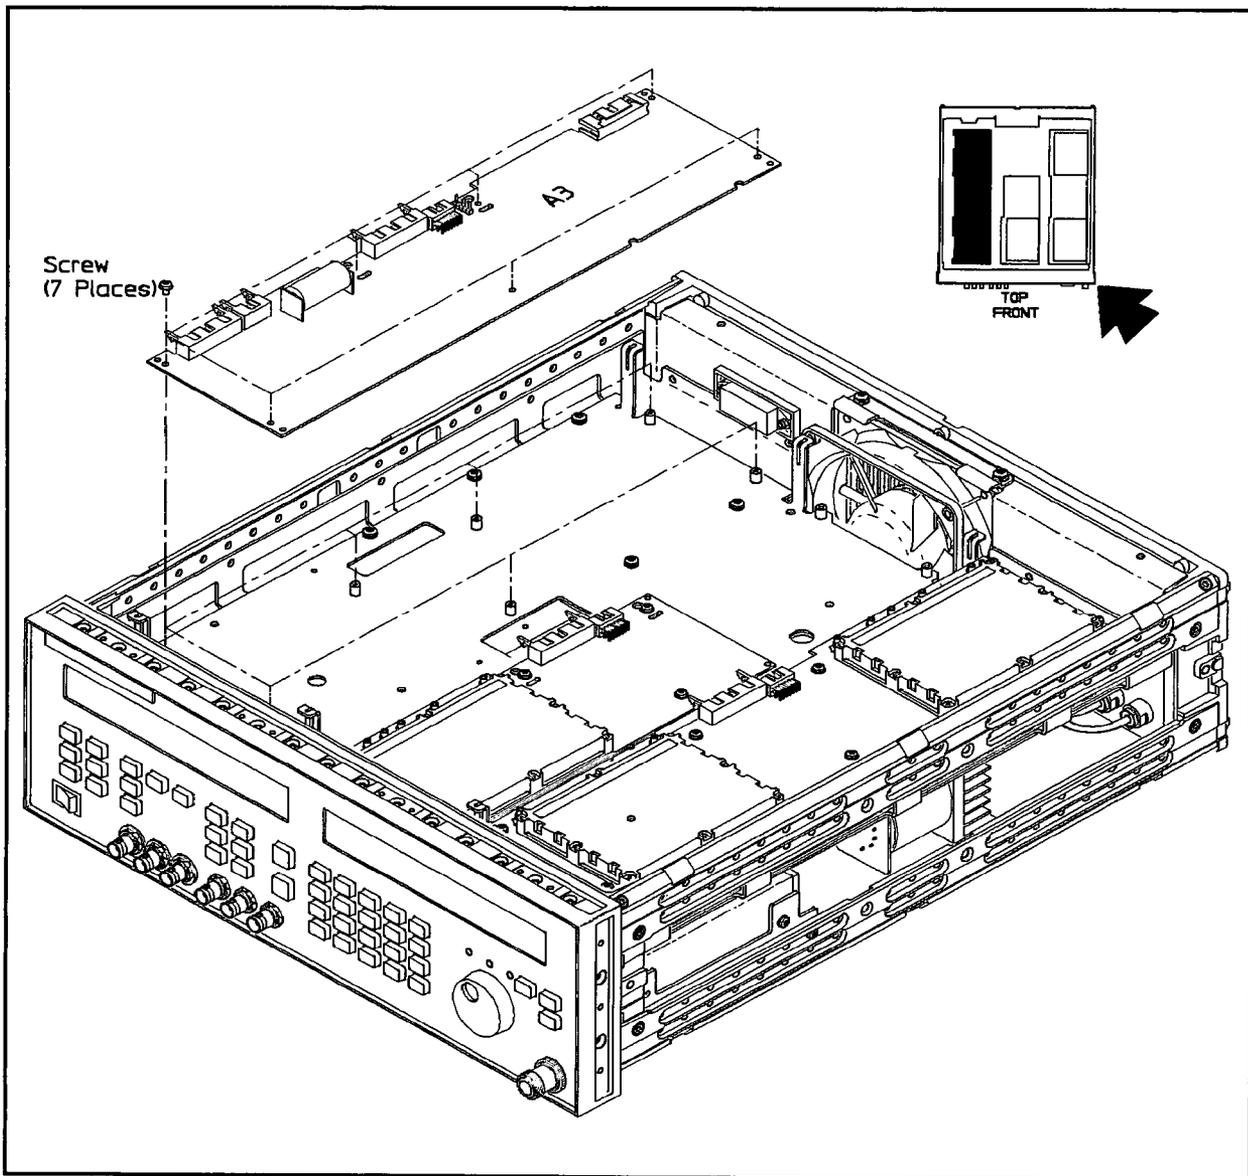

Figure 5-20. Microprocessor Board Assembly Removal
1. Using a size 10 TORX® screwdriver, remove the seven screws from the microprocessor board assembly as shown in Figure 5-20.